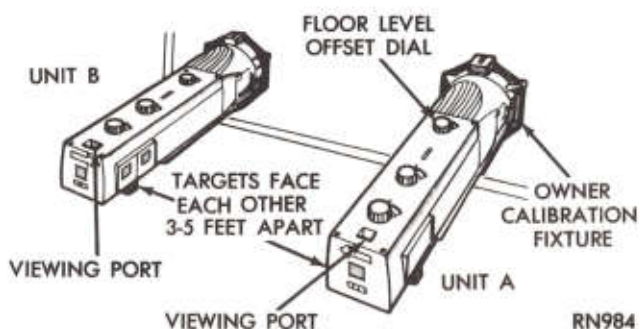

Fig. 5—Checking Aimer Calibration
(3) Locate a true vertical plate glass window or smooth surface and secure aimers three to five feet apart so split image targets can be located in viewing ports (Fig. 5).